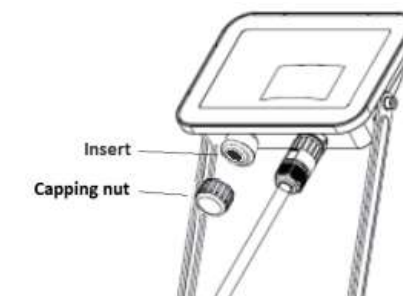

Fig. 4
- Remove the capping nut, and using pliers pull out the protective insert from the fitting (see Fig. 4)